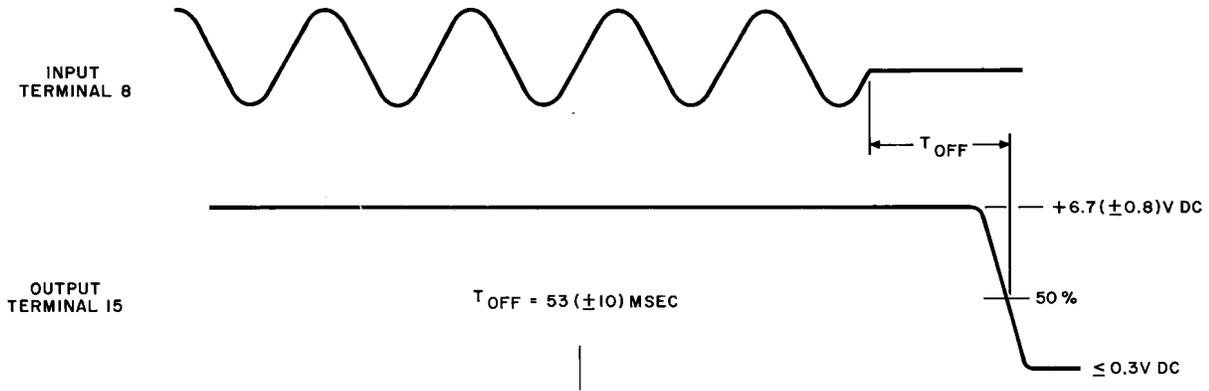

Fig. 17A — Automatic Gain Control 1 Test
(5) Set the scope EXT SYNC TRIGGER selector to the negative (-) position. The input and output waveforms shall be as specified in Fig. 17A.